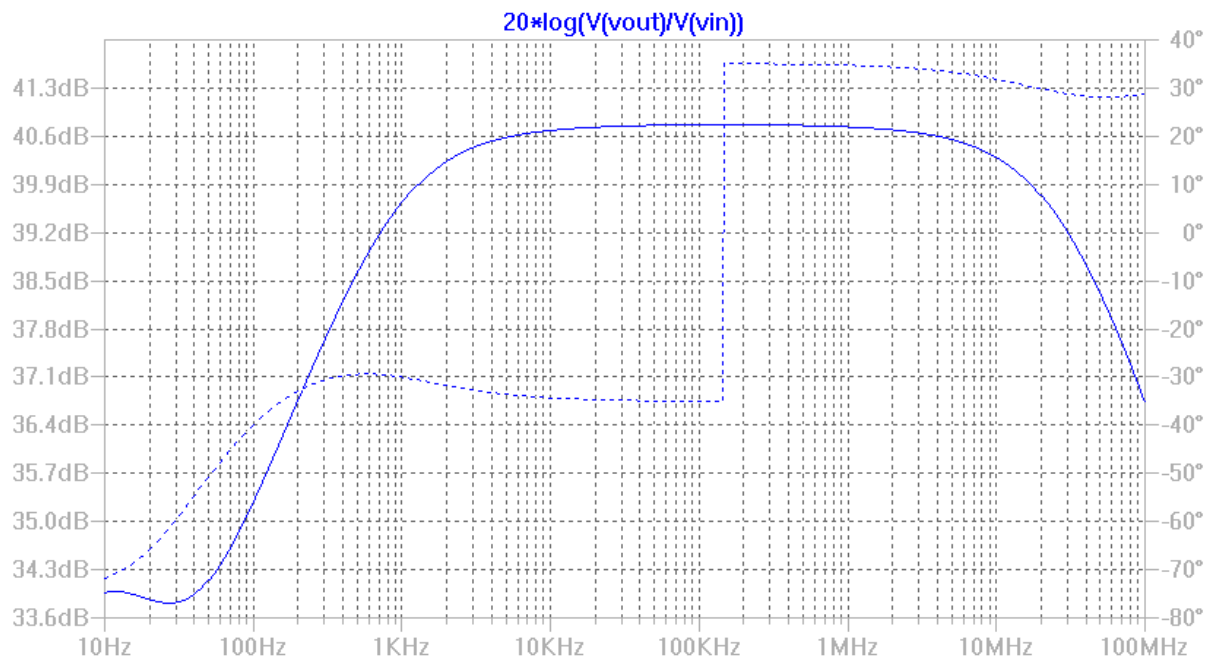

Figure 2.13: Bode plot (magnitude and phase) for the CE amp
9. Now let's create a Bode plot like the one shown in Figure 2.13. In the previous circuit for the CE Amplifier, right click on the Vs source, and under "small signal AC analysis", enter 10mV. In the 'Edit Simulate CMD', select AC analysis with the following parameters: